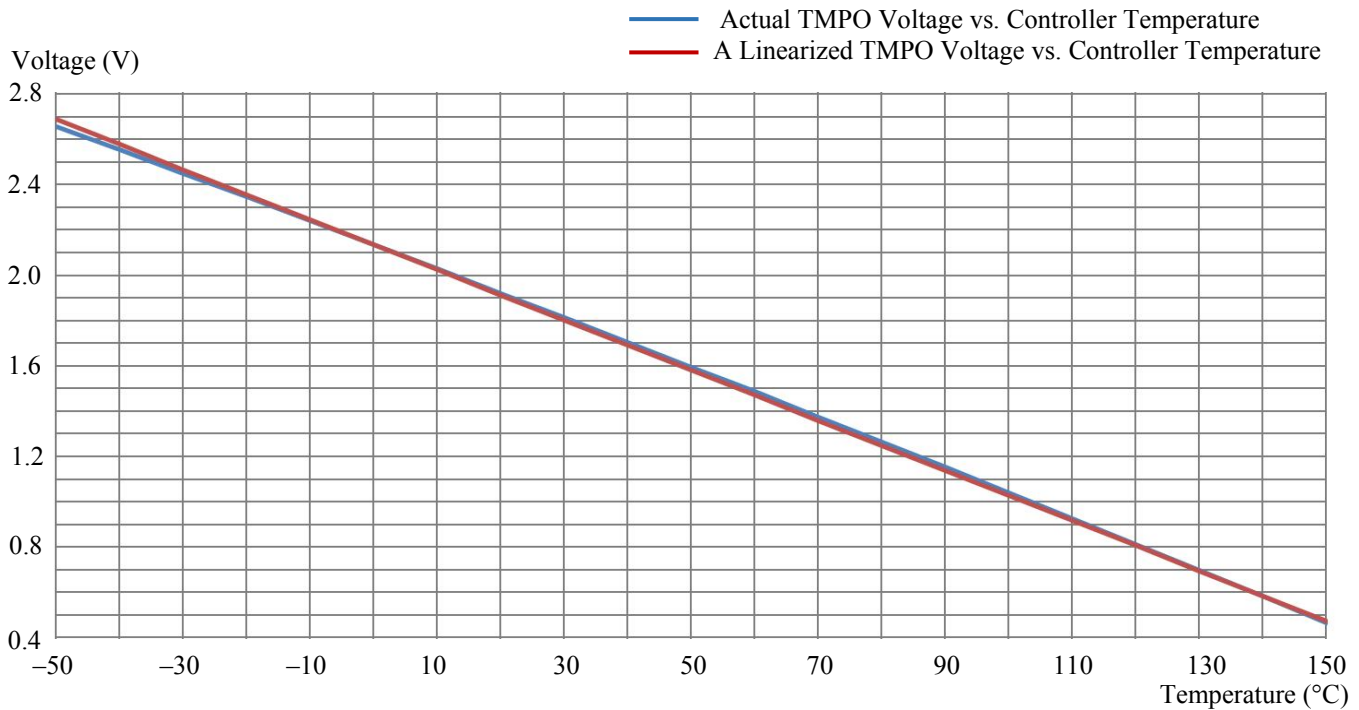

Figure 24. Controller Internal Temperature vs. TMPO Voltage
approximated data obtained by using the linear equation (2) is about 0.4°C, with the linear data being a little lower. The curves of the 2 sets of the data are plotted in Figure 24.